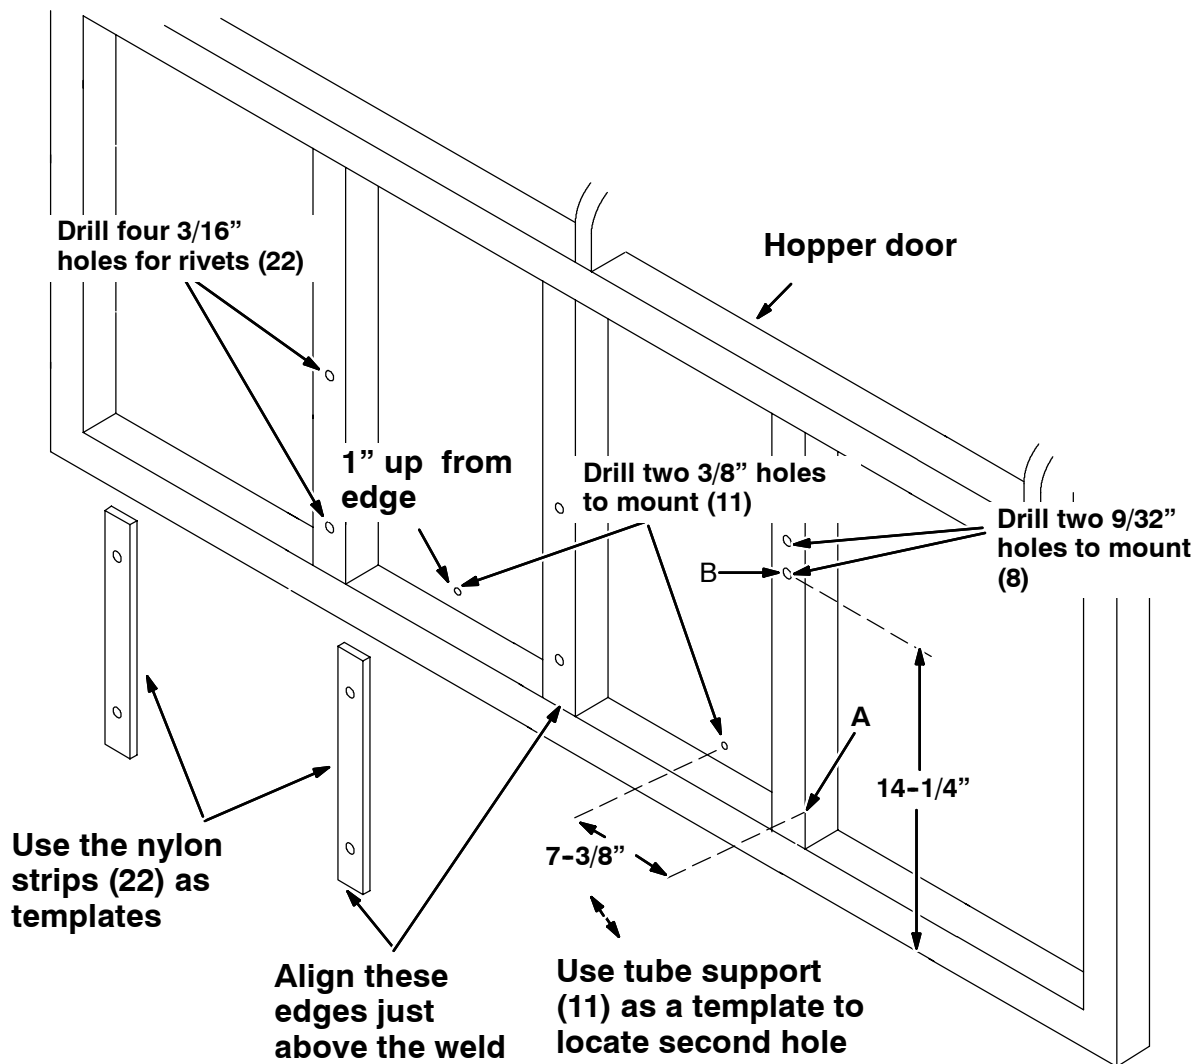
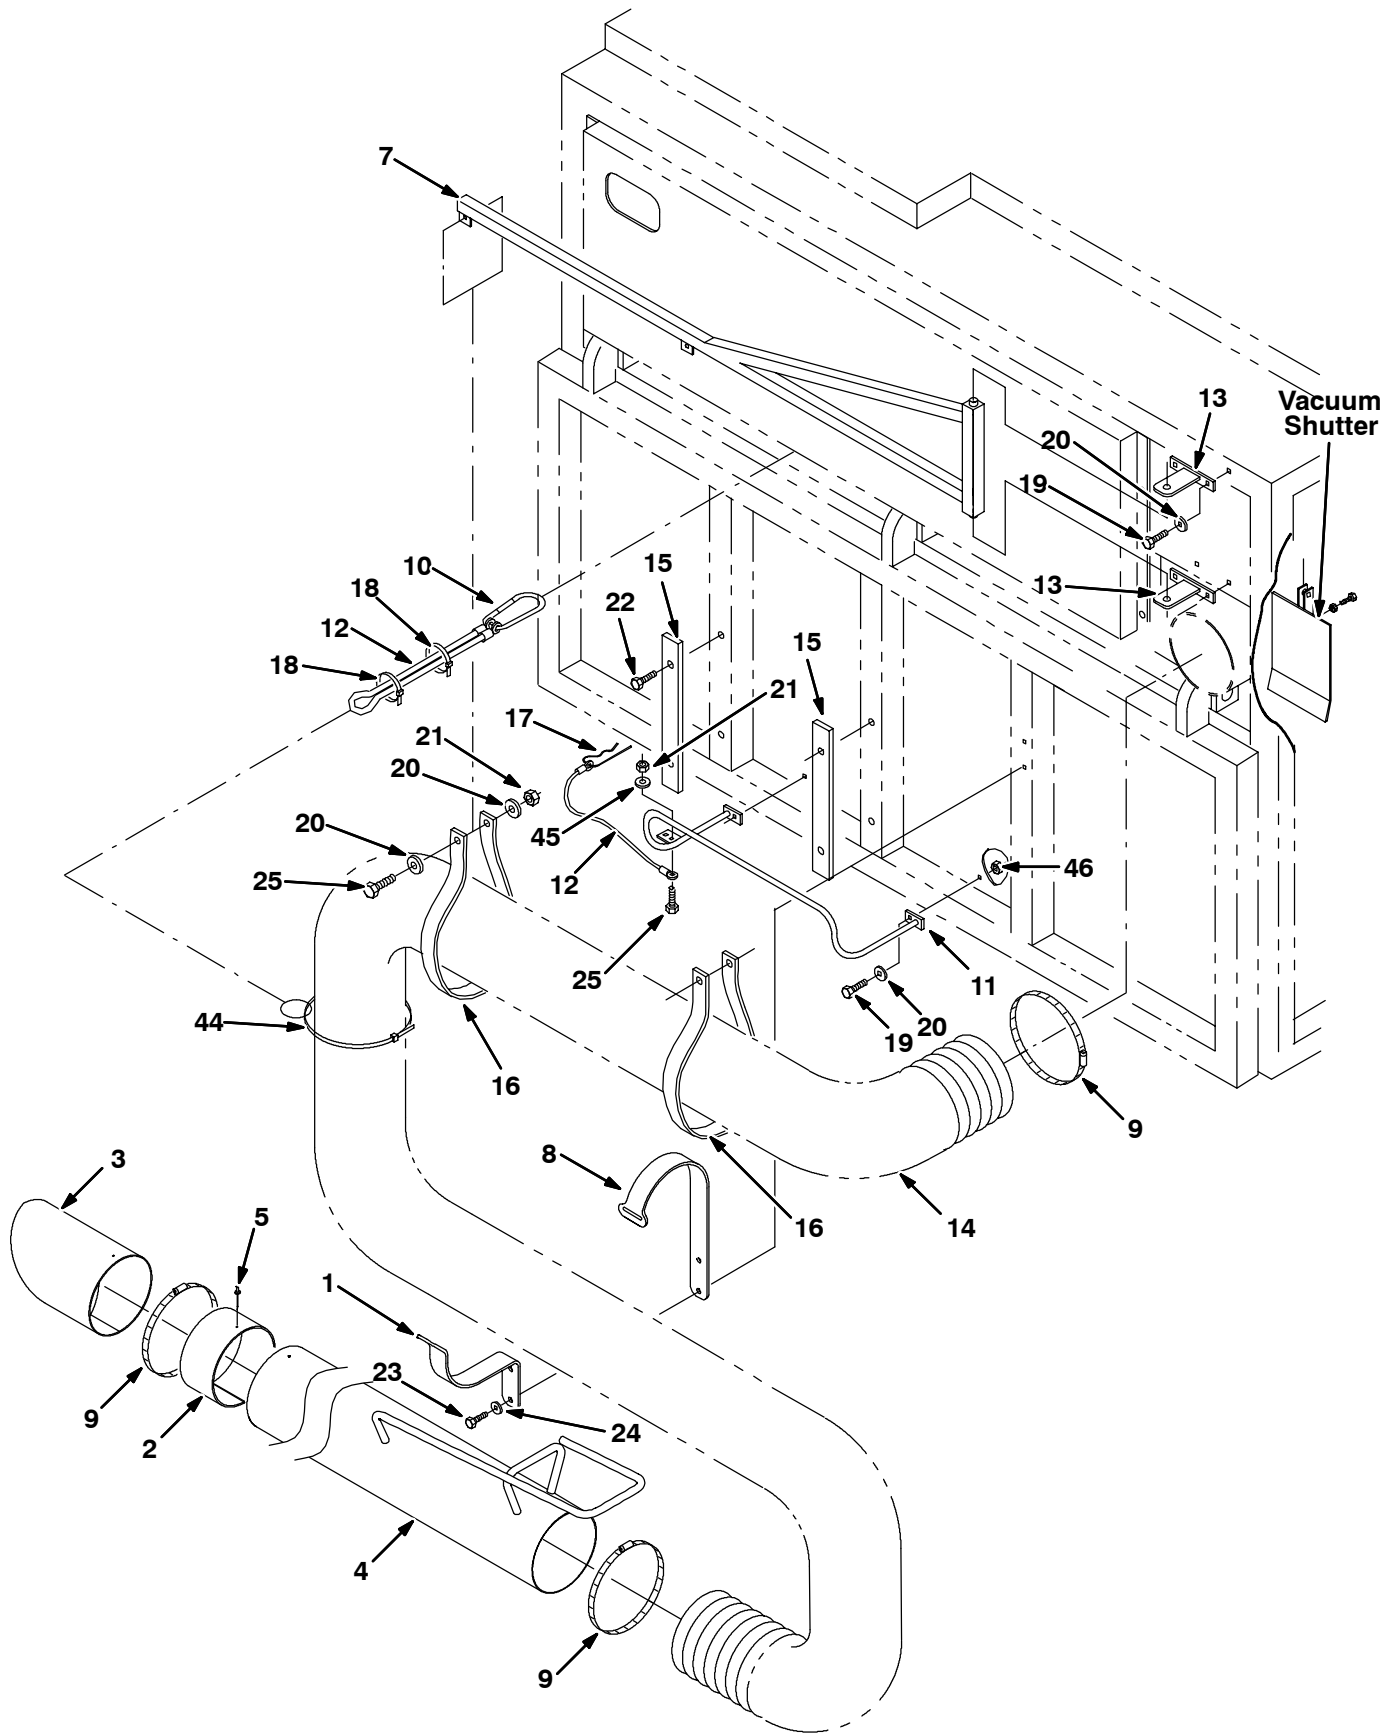

FIG. 2 - Mount Hole Locations In Hopper Door
FIG. 3 - Vacuum Hose Assembly
1. The hopper dump door must be in the open position with the hooper down. (Refer to Fig. 2)
2. Locate the vacuum shutter located in the rear right side of the hopper above the hopper door. This shutter is sealed with RTV. Use a razor knife to cut the RTV away from the edge of the shutter. Ensure the shutter swings open smoothly. (Refer to Fig. 3)
3. Drill one $\frac{3}{8}$ " hole in the hopper dump door 1" up from the bottom tube and $7\text{--}\frac{3}{8}$ " over from point A. (Refer to Fig. 2)
4. Align a hole in the rear tube support (11) with the hole just drilled and then use the other hole in the tube support (11) and mark a second hole onto the left side of the dump door 1" up from the top of the bottom tube. Drill another $\frac{3}{8}$ " hole into the hopper dump door. (Refer to Fig. 2 and Fig. 3)
5. Use two hex screws (19), flat washers (20), and lock nuts (46) to install the tube support (11) to the hopper dump door. Tighten to 18–24 Nm (15–20 ft lb). Apply RTV around the nuts inside the hopper. (Refer to Fig. 3)
6. Use one nylon rub strip (15) as a template and center the strip on the center vertical tube. Align the bottom edge of the nylon strip (15) with the top edge of the weld. Mark both holes. Repeat this procedure on the vertical tube to the left of the center vertical tube. (Refer to Fig. 3)
7. Drill four 3/16" holes at the markings made in the previous step. (Refer to Fig. 3)
8. Use the four rivets (22) to attach the two nylon strips (15). (Refer to Fig. 2 and Fig. 3)
9. Use two hex screws (19) and flat washers (20) to install a vacuum hose support (13) to the lower set of tapped holes just above the vacuum tube inlet nozzle. Tighten the two hex screws (19) to 18–24 Nm (15–20 ft lb). (Refer to Fig. 3)
10. Place the vacuum wand hose boom (7) on the vacuum hose support (13) installed in the previous step. Use two hex screws (19) and flat washers (20) to install the other vacuum hose support (13) to the upper set of tapped holes. Tighten the two hex screws (19) to 18–24 Nm (15–20 ft lb). (Refer to Fig. 3)
11. Drill one 9/32" hole into the hopper dump door 14 1/2" up from the bottom tube and centered on the vertical tube–point B. (Refer to Fig. 2)
12. Use the retainer (8) as a template, center the bottom hole in the retainer (8) on the hole drilled in the previous step, and mark the point where the the top hole in the retainer (8) is positioned. (Refer to Fig. 2 and Fig. 3)
13. Drill another 9/32" hole into the hopper dump door. (Refer to Fig. 2)
14. Slide a hose clamp (9) onto one end of the vacuum hose (14). (Refer to Fig. 3)
15. Install one end of the vacuum hose (14) to the vacuum inlet nozzle on the back of the hopper and loosely tighten the hose clamp (9) to secure the vacuum hose (14) to the vacuum inlet nozzle . (Refer to Fig. 3)
16. Use two vacuum wand straps (16), two hex screws (25), four flat washers (20), and two lock nuts (21) to attach the vacuum hose (14) to the boom (7). Rotate the hose (14) so it flows neatly from the hopper, up the boom, and out to the end where the vacuum wand (4) will be installed. Tighten both hex screws (47) to 18–24 Nm (15–20 ft lb). (Refer to Fig. 3)
17. Tighten the hose clamp (9) left loose in Step 15. (Refer to Fig. 3)
18. Slide a hose clamp (9) onto the other end of the vacuum hose (14). (Refer to Fig. 3)
19. Install the vacuum wand (4) onto the end of the vacuum hose (14). Use the hose clamp (9) to secure the vacuum hose (14) onto the vacuum wand (4). Hand tighten the hose clamp (9). (Refer to Fig. 3)
20. Use a rivet (5) to install the wand adapter tube (2) onto the vacuum wand (4). (Refer to Fig. 3)
21. Slide a clamp (49) onto the end of the vacuum wand rubber nozzle (3). (Refer to Fig. 3)
22. Install the vacuum wand rubber nozzle (3) onto the wand adapter tube (2) and tighten the clamp (49) enough to hold the vacuum wand rubber nozzle (3) firmly on the wand adapter tube (2). (Refer to Fig. 3)
23. Install the vacuum hose support bracket (1) and the retainer (8) onto the hose (14) and use two hex screws (23) and washers (24) to secure the vacuum hose support bracket (1) and the retainer (8) into place on the hopper door. (Refer to Fig. 2 and Fig. 3)
24. Install one cable (12) and a hair cotter pin (17) onto the left side of the support tube bracket (11). (Refer to Fig. 3)
25. Install the chain snap (10) onto the other cable (12). (Refer to Fig. 3)
26. Clip the chain snap (10) into the hole in the lower left bottom flange of the fan cover. (Refer to Fig. 3)